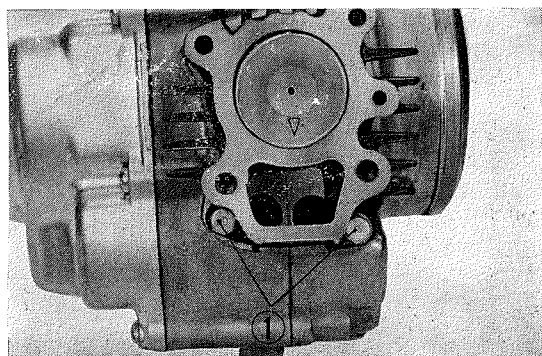

Fig. 33 ① Cylinder mounting bolt
2. Unscrew two 6 mm cylinder mounting bolts to remove the cylinder. (Fig. 33)